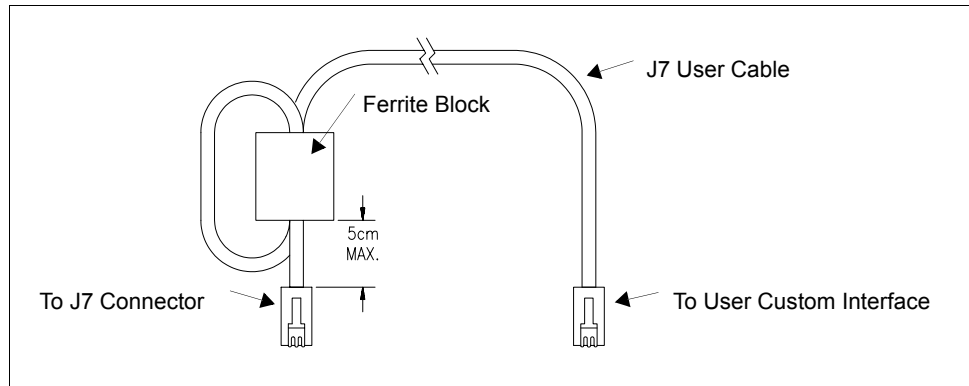

Figure 2.7 J7 User Cable with Ferrite Block
3. Loop the cable through the ferrite block. See Figure 2.7, “J7 User Cable with Ferrite Block” on page 36.